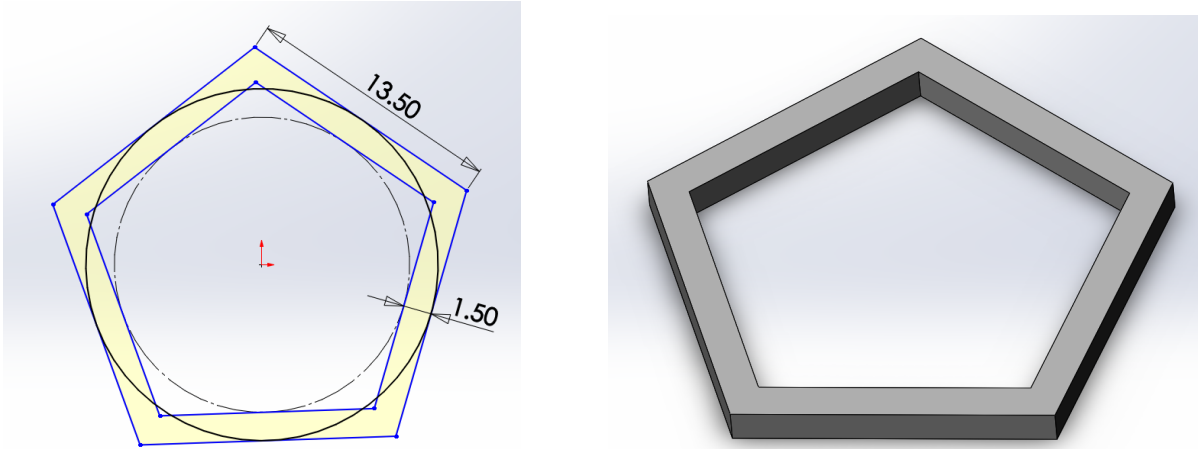

Figure 4. Model Fort McHenry
3. Now mark off the lines shown in Figure 4 above lightly with pencil.